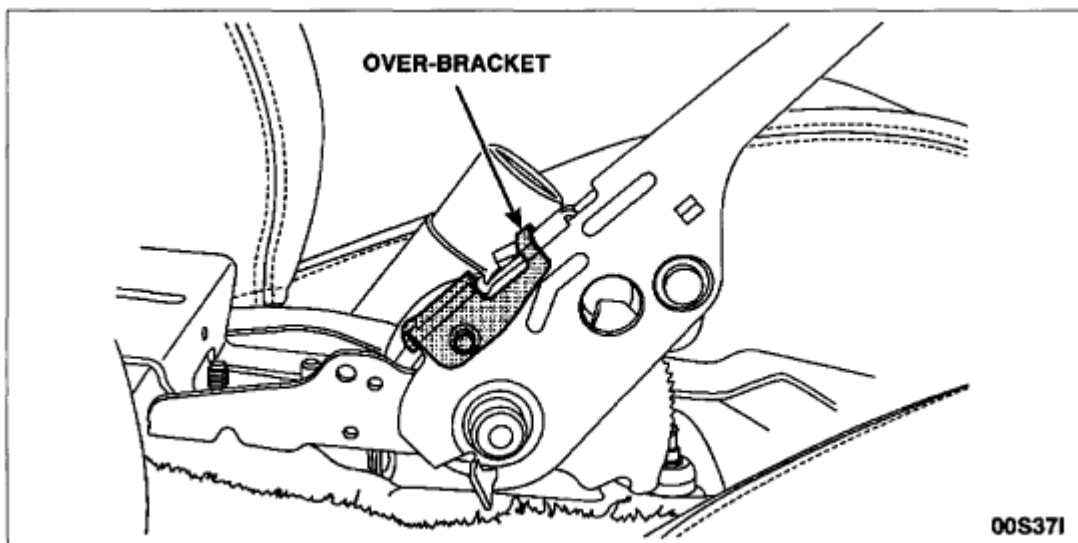

FIGURE 9
- On 1994-2000 model year vehicles, position the over-bracket on the control assembly as shown in the illustration. Make sure the over-bracket mounting hole is aligned with the lockpin hole on the control assembly. Install the self-tapping screw and tighten to 3.0 Nm (27 in-lb). See Figure 9.